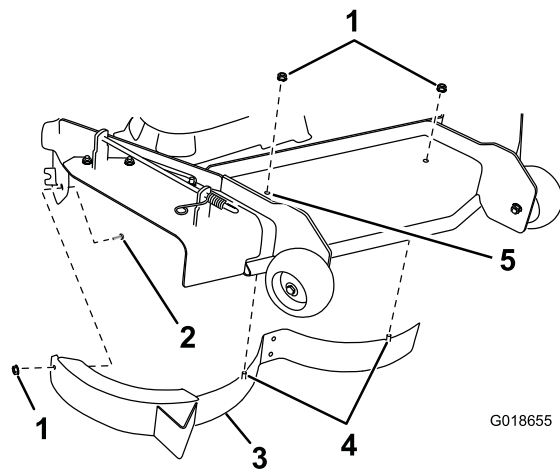

Figure 3
12. Install the right-hand baffle to the mower deck as shown in Figure 3.
Note: Remove the plug bolt and nut shown in Figure 3 before installing the baffle.
13. Install a carriage bolt (5/16 x 3/4 inch) and a locknut (5/16 inch) through rear wall of the mower deck and the right-hand baffle to secure the baffle to the mower deck (Figure 3).